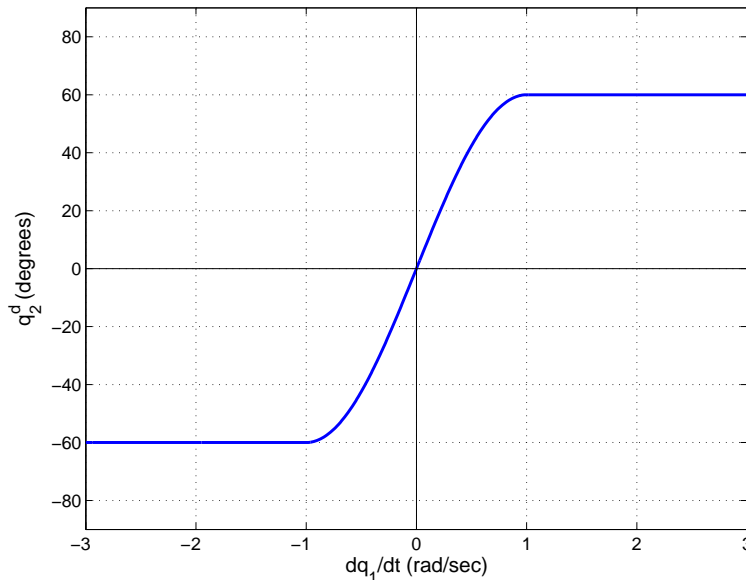

Figure 2: An alternative smooth function for $q_2^d(\dot{q}_1)$.
2.3 Zero dynamics for collocated acrobot. As mentioned in class, the use of the arctan function in Equation (53) (as shown in Figure 4) in [2] is rather arbitrary. In fact, this particular choice results in zero dynamics result a third-order equation of motion for q_1 , as shown in Equation (54). In Figure 2, below, is an alternative function. For $|\dot{q}_1| < 1$ (rad/s), $q_2^d = (\pi/3) \sin(\dot{q}_1 \pi/2)$. For $|\dot{q}_1| \geq 1$ (rad/s), $q_2^d = (\pi/3) \text{sgn}(\dot{q}_1)$.
- a) Modify `acrobot_collocated_linearization.m` to use the function shown in Figure 2, instead of the `arctan` function from [2]. Using the same initial condition, X_0 , from Problem 2.1, simulate 30 seconds of the dynamics from the original collocated controller (downloaded from the web) and from your newly modified code. Produce a phase plot of \dot{q}_1 vs q_1 for each set of data. (These plots should look similar to Figure 5 in [2].)
- b) Assume that at steady state, $q_2 = q_2^d = \pi/3$, and $\dot{q}_2 = \ddot{q}_2 = 0$. Write the equation of motion for the resulting zero dynamics. (i.e., find the new EOM for q_1 , which now replaces Eq. (54) from [2].)